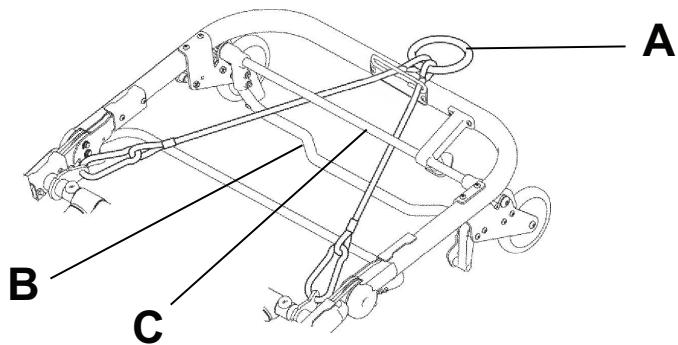

Figure 21 – Attaching the tow package cables
1. Clip the winch cable to the ring (A) on the tow package (Figure 21).
3. Attach the cables above the red release bar (B) and below the black bar (C) (Figure 21).